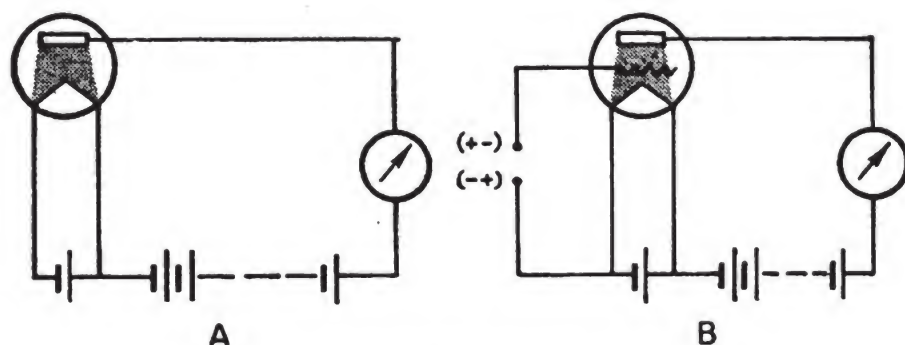

Figure 176.—Operation of simple vacuum tube.
RENT. It is referred to as the PLATE CURRENT. If the voltage applied to the filament and the voltage supplied to the plate are both constant, the plate current is a STEADY, DIRECT current, as you see in (A) of figure 176.
Ah, but wait! In (B) of figure 176, you have placed a GRID, a meshlike metallic structure, between the filament and the plate. Moving electrons of plate current pass through the grid on the way to the plate. If you place a positive charge on the grid, you increase the number and velocity of the electrons attracted from the filament. Some of these electrons may flow merely to the grid itself, but, because of the